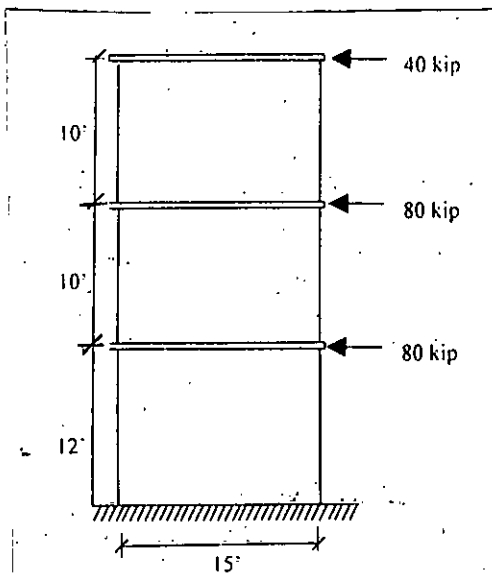

Fig. 3
5. (a) A three storied reinforced concrete wall is subjected to factored lateral loads as shown in Fig. 3. The wall is 15 ft long and 10" thick. Design reinforcement for the wall at the first level between the base and the first floor. Given: $f'_c = 4000$ psi and $f_y = 60000$ psi. (19)
3. Analyze the following truss (Figure 3) using the flexibility method. Find all member forces if the top cord (45) experiences a temperature rise of 20°C and a misfit of amount $\frac{5\sqrt{2}}{AE}$ exists in cord (25) respectively. $\alpha = 13 \times 10^{-6}/^\circ\text{C}$ and E is constant for all members. (26 ¼)